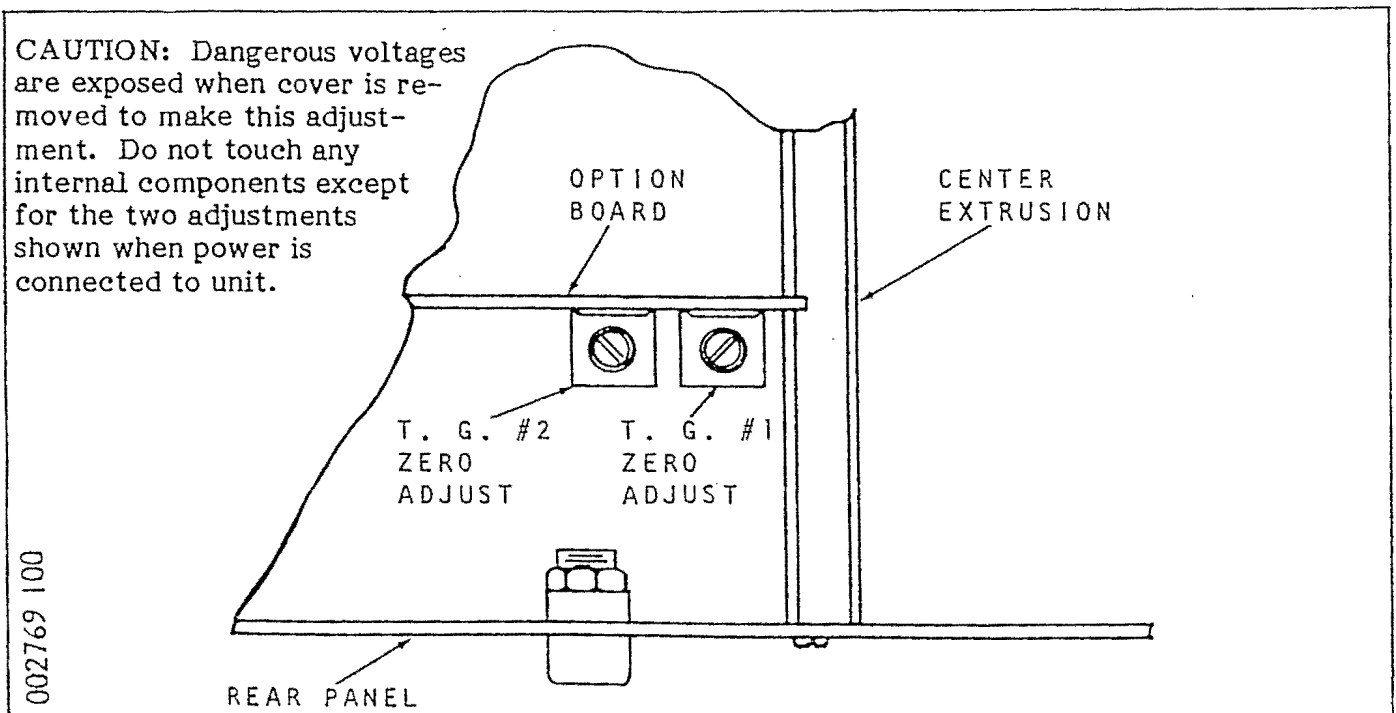

FIG. 3-6 LOCATION OF THERMO-GAUGE CALIBRATION POTENTIOMETERS
With the controller power turned off, connect the 8-pin connector labeled 1 to the Thermo-Gauge tube you wish to designate as 1. Connect the remaining 8-pin connector to tube 1 if present. The Thermo-Gauge switch above the Thermo-Gauge meter will now correspond to tubes 1 and 2. Plug the other cable end into the accessory connector on the rear panel. The Thermo-Gauge feature will now be operative whenever the power light is on. To make the Thermo-Gauge meter direct reading for your tubes, it is necessary to adjust two calibration controls on the vertical printed circuit board. Refer to Fig. 3-6.
2. Using care not to contact live circuits remove the top cover and adjust the No. 1 potentiometer (Fig. 3-6) until the Thermo-Gauge meter reads 10^{-3} Torr.
3. Place the Thermo-Gauge switch in position 2 and adjust the No. 2 potentiometer (Fig. 3-6) until the Thermo-Gauge meter reads 10^{-3} Torr.